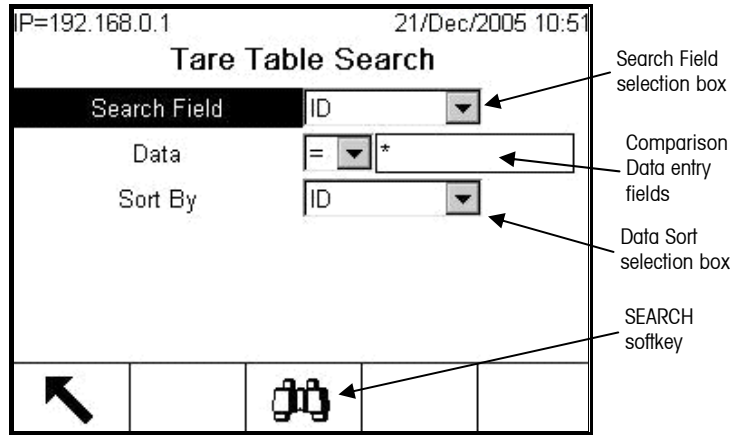

Figure 2-29: Tare Table Search Screen
- To select a sub-set of records from the table, press the TABLE SEARCH soffkey . The Search Screen for the selected report type displays (see Figure 2-29).